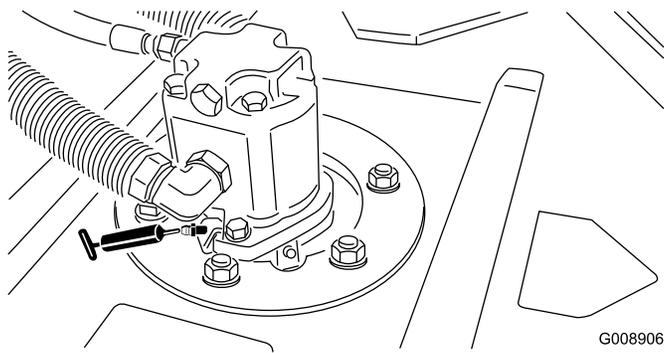

Figure 32
- Cutting unit spindle shaft bearings (2 per cutting unit) (Figure 32)